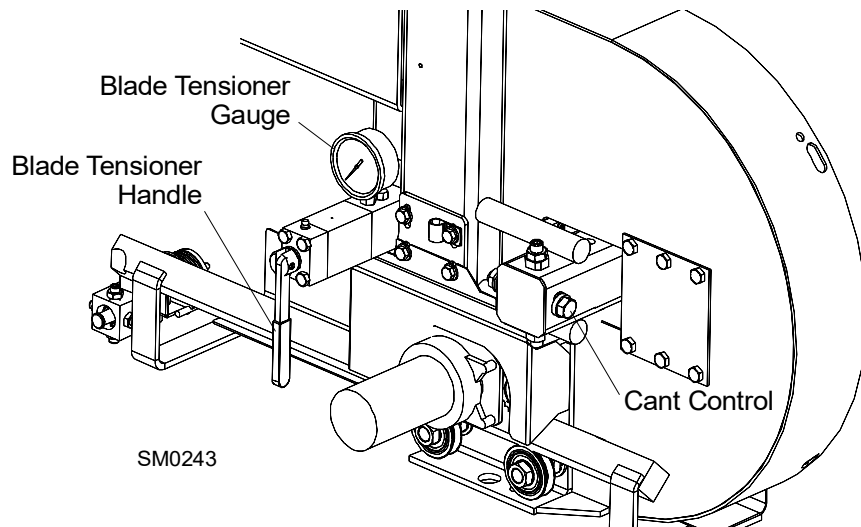

FIG. 3-9
See **Figure 3-9**. Tension the blade by turning the hydraulic tensioning handle clockwise until the tension gauge indicates the recommended tension.
5. To adjust where the blade travels on the blade wheels, use the cant control shown in Figure 3-9.